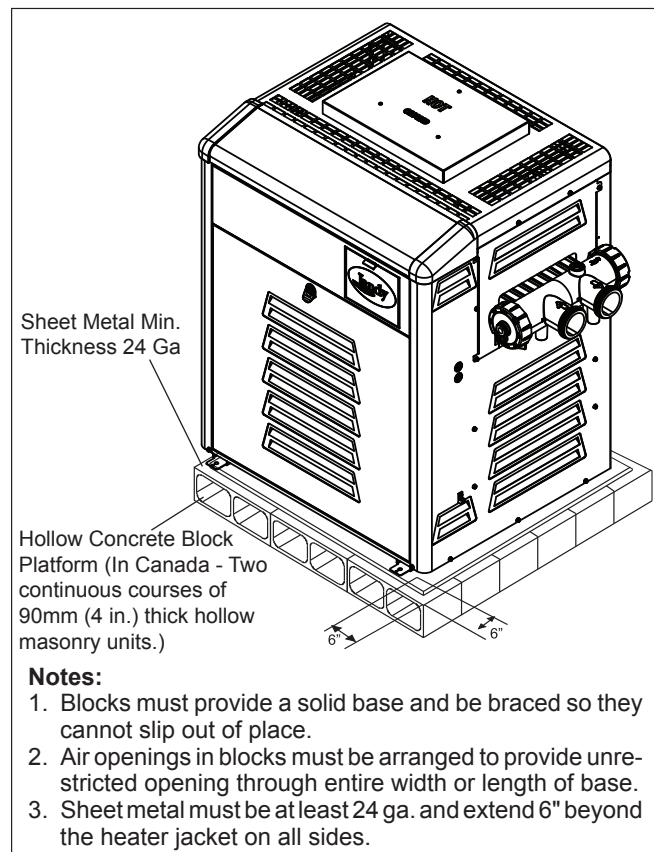

Figure 2. Noncombustible Platform
As an alternative to the Jandy noncombustible base plate, in the United States, the National Fuel Gas Code (NFPA 54 / ANSI Z223.1), and in Canada, the Natural Gas and Propane Installation Code (CAN/CSA-B149.1), allow a heater to be placed on a combustible surface when there is a platform under the heater made of hollow masonry no less than four (4) inches (102 millimeters [mm]) thick, covered with sheet metal at least 24 gauge thick and extending beyond the full width and depth of the heater by at least six (6) inches (153 mm) in all directions. The masonry must be laid with ends unsealed, and joints matched to provide free circulation of air from side to side through the masonry (see Figure 2). If the heater is installed in a carpeted alcove, the entire floor of the alcove must be covered by a noncombustible panel.